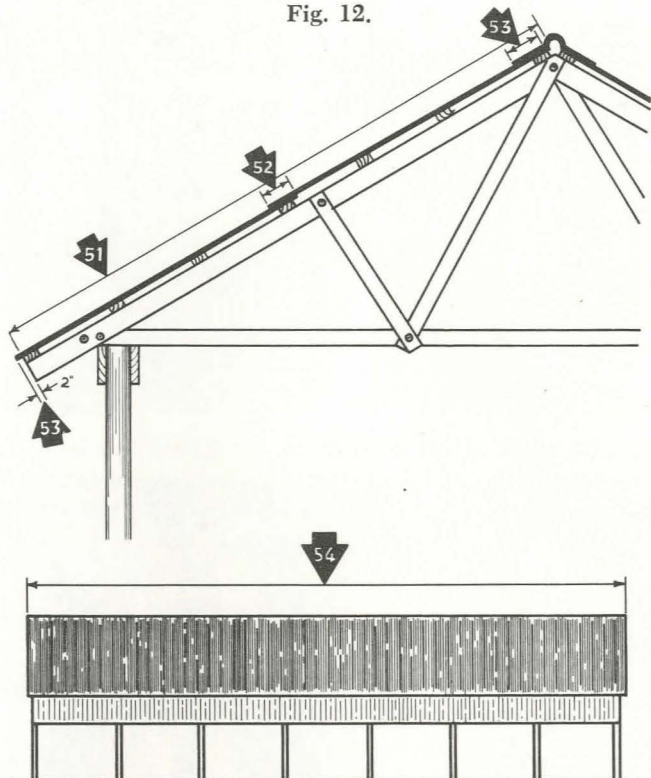

Fig. 13-14.
51. Measure the distance from the ridge to the eave along the rafter and add 2 inches for metal overhang. This is the length to use when figuring the length of the sheets (see Figs. 13-14).